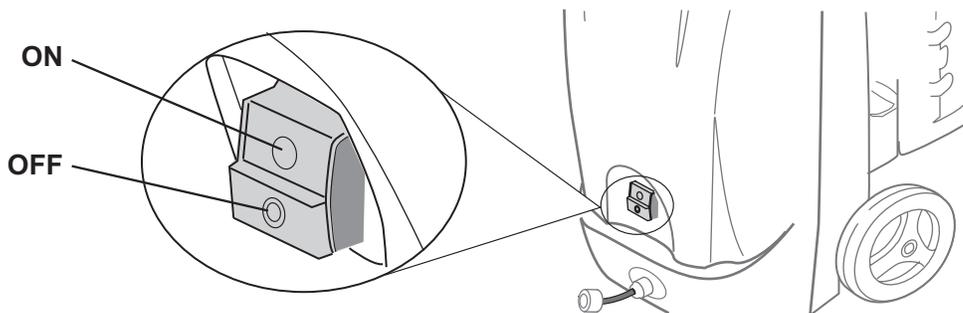

Fig. 4
7. Press the on/off button to start pressure washer. (See Figure 4)